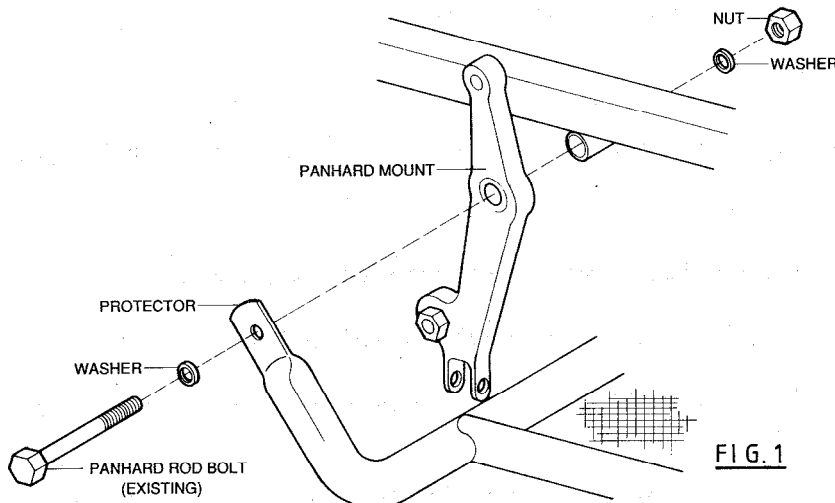

FIG 1 - RHR PROTECTOR PLATE MOUNTING
- b. Remove the lower Panhard rod mounting arm to chassis mounting bolt and fit the Right Hand Rear (RHR) protector mount using an additional plain washer and new nut (items 2 and 3 and 4 from Table 1), as shown in Fig 1.